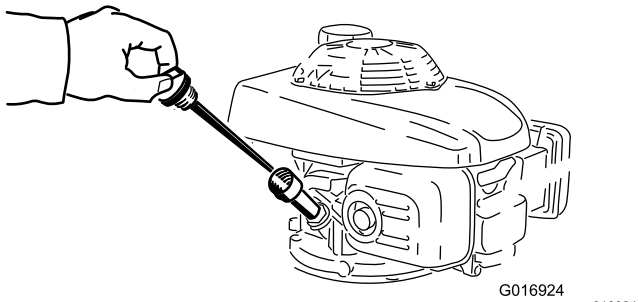

Figure 26
5. Retirez la jauge (Figure 26).